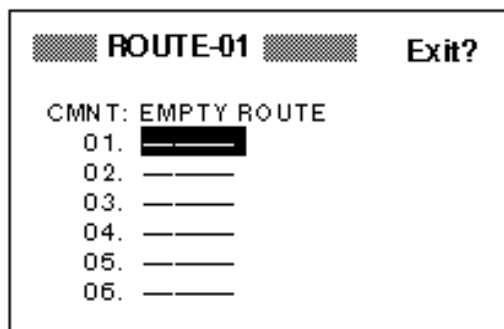

Figure 4-7 Screen for entering route
- Select "NEW?" and press the [ENT] key. The screen shown in Figure 4-7 appears.